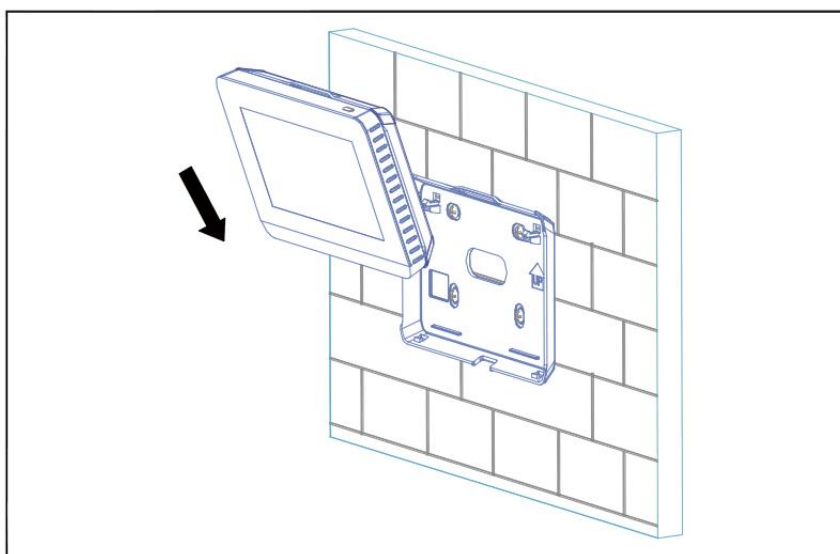

Figure 5 Insert controller into back cover
3.1.4 Insert the centralized controller into two buckles slantwise at the bottom of back cover, as shown in Figure 5.